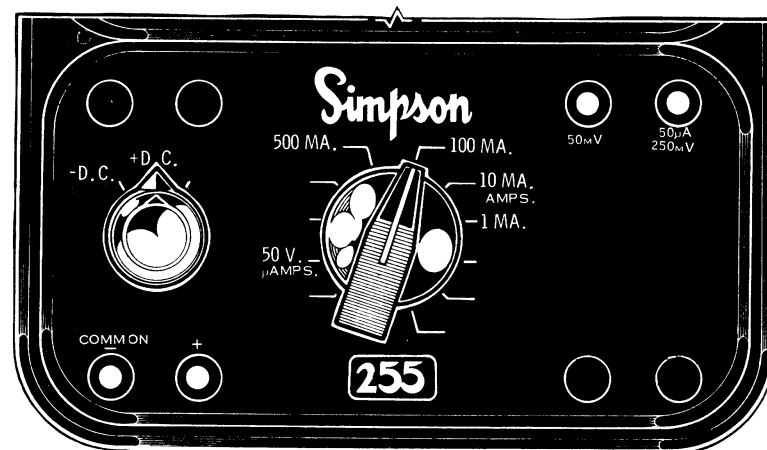

Figure 4-6. Jacks and Switch Positions for Direct Currents
- b. Set the function switch at +DC (Figure 4-6).